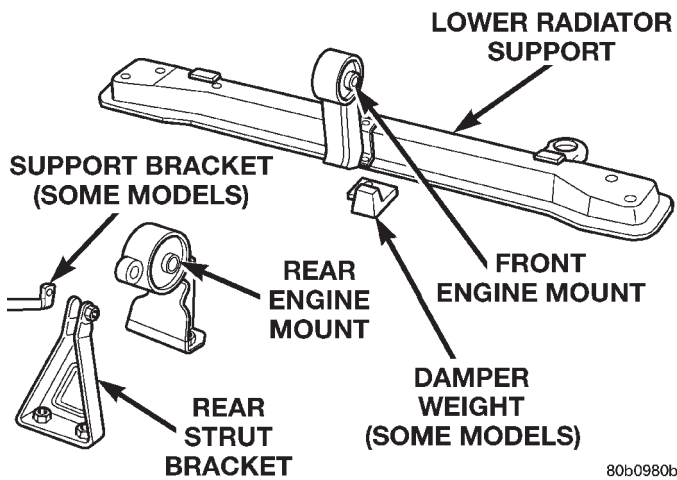

Fig. 16 Engine Mounting—Front and Rear
- (3) Remove rear strut bracket and brace (Fig. 16).
- (4) Remove bolts attaching rear mount to suspension crossmember.
- (1) Position rear mount.
- (2) Install bolts attaching rear mount to crossmember. Tighten bolts to 61 N·m (45 ft. lbs.).
- (3) Install rear strut and support brackets (Fig. 16). Tighten bolts to the following torque values: